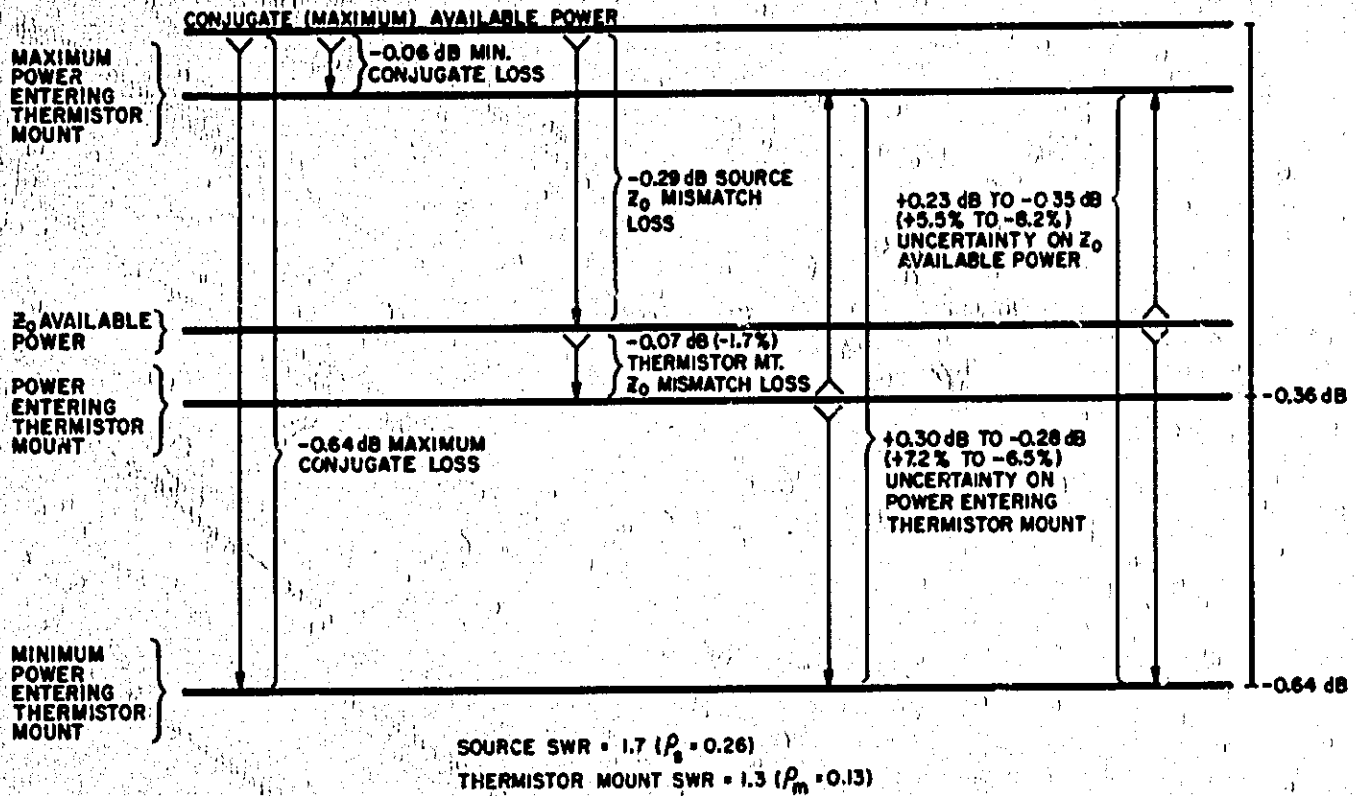

Figure 3-2. Mismatch Power Measurement Uncertainty
**3-23.** An example may explain how imperfect match affects the uncertainty of power measurement. A typical  $Z_0$  available power measurement situation can involve a source with an SWR of 1.7 ( $\rho_S = 0.26$ ) and a thermistor mount with an SWR of 1.3 ( $\rho_M = 0.13$ ). Figure 3-2 shows a plot of power levels and mismatch power uncertainties that result from source and thermistor mount mismatch. The source  $Z_0$  mismatch results in a power loss of -0.29 dB from the maximum power that would be delivered by the source to a conjugate match. The power level that results from this loss is the  $Z_0$  available power. The thermistor mount  $Z_0$  mismatch causes an additional power loss of -0.07 dB. However, on the thermistor mount  $Z_0$  mismatch loss is an uncertainty resulting from the unknown phase relationships between the impedances of the source and thermistor mount. This uncertainty is +0.30 dB to -0.28 dB and can be determined from the Mismatch Loss Limits charts in Application Note 64.